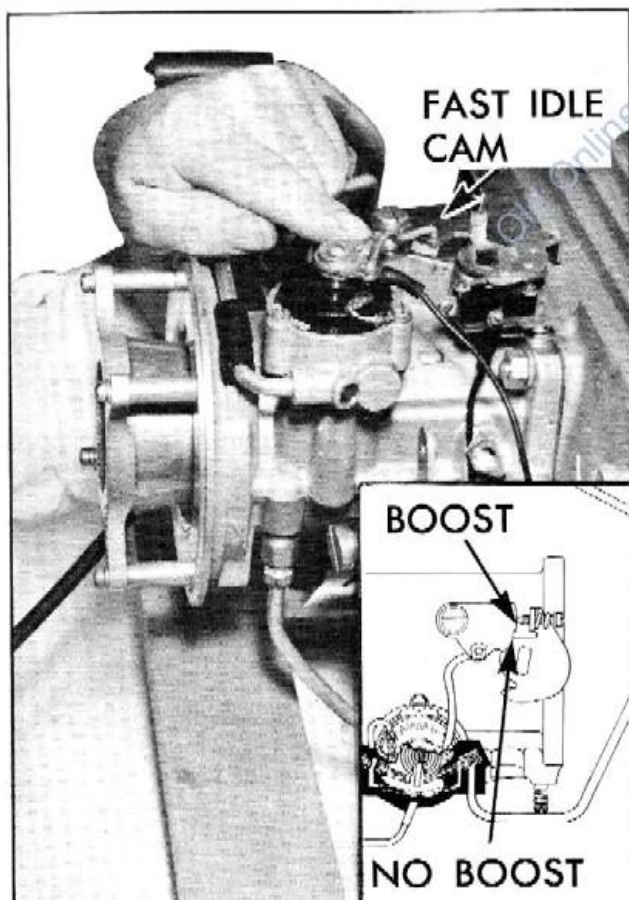

Fig. 4 Cold Enrichment Rod Length Adjustment
3. Holding the trip lever against the counterweight tab as illustrated in Fig. 4, blow into the hose while listening at the air meter. If choke rod length is correct, slight air flow should be heard. Repeat check but with throttle tab on second step of fast idle cam. No air flow should be